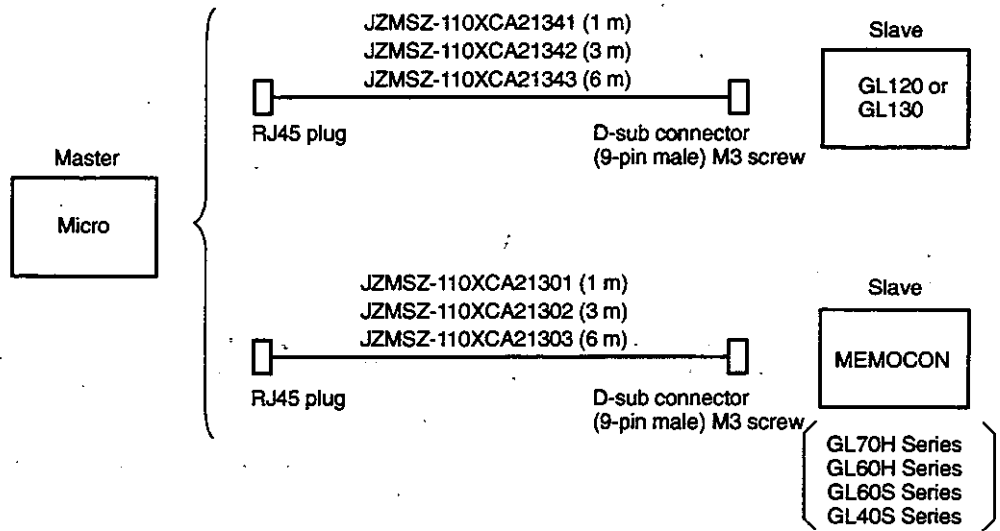

Figure 4.11 Micro Master Connection to GL120, GL130, or Other MEMOCON PLCs
2) Figure 4.11 shows how the GL120, GL130, and other Yaskawa MEMOCON PLCs can be connected to the Micro master. The applicable cable configuration differs depending on whether the slave is a GL120, GL130, or another Yaskawa PLC even when they all share the same Micro master.